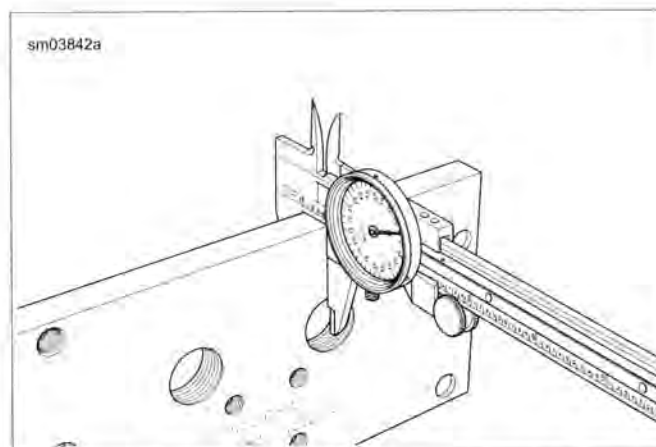

Figure 3-94. Measure Thickness of Support Plate
2. See Figure 3-94. Using a dial caliper, measure thickness of support plate.